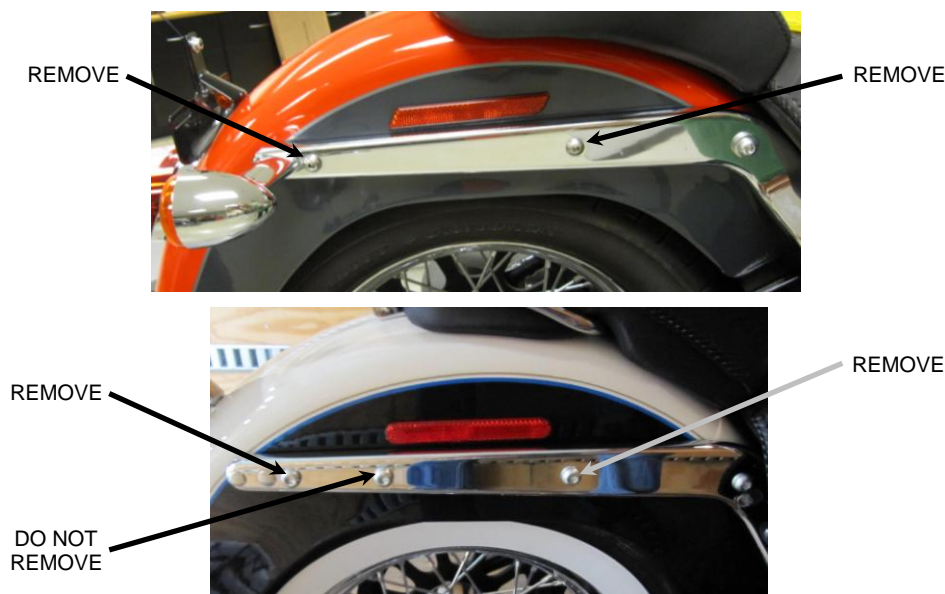

FIGURE 1
1. Remove the front bolt from the right side fender rail and discard. **NOTE:** Remove one side only so the fender does not fall resulting in possible scratches or damage to the fender or paint. See **FIGURE 1**.
3. Remove the rear most fender rail bolt and discard. See **FIGURE 1**. On Deluxe and Heritage Classic models, do not remove the center fender rail bolt. See **FIGURE 1**.